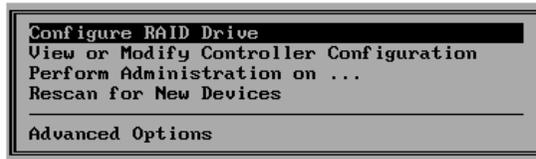

Figure 2-28. Main Menu - Configure RAID Drive
**From the main menu, press Enter with Configure RAID Drive selected (Figure 2-28).**